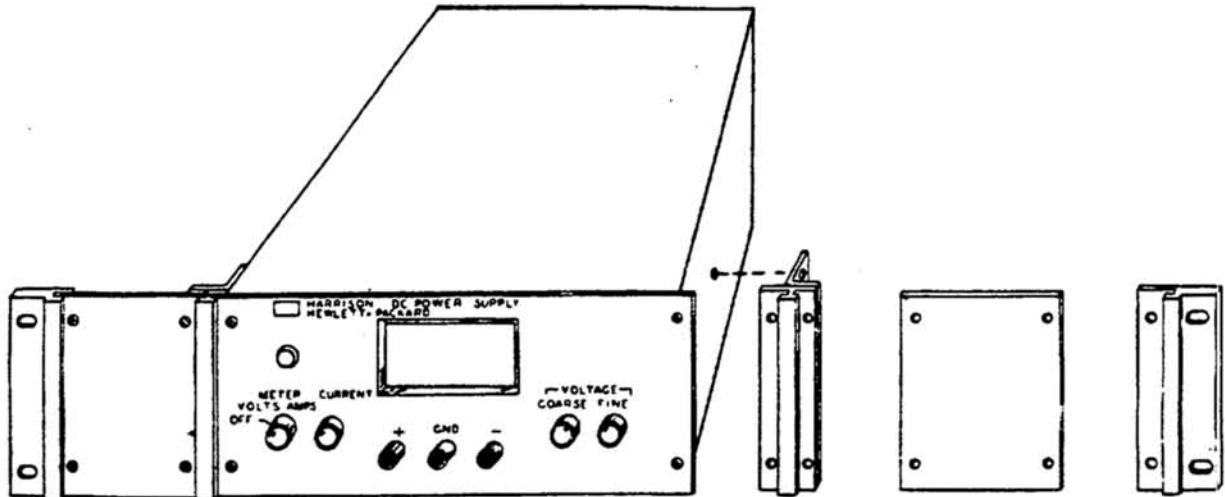

Figure 2-2. Rack Mounting, One Unit
- Bolt rack mounting ears, combining straps, and angle brackets to each side of center spacing panels. Angle brackets are placed behind combining straps as shown in Figure 2-2.